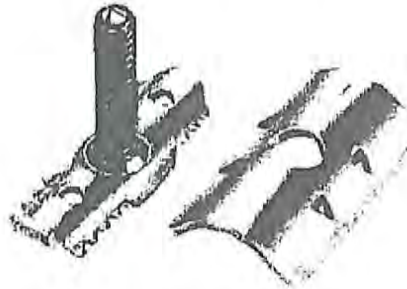

Figure 2 - Mini B Bond Clamp
2.04 The Mini B Bond Clamp, shown in Figure 2, consists of an outer plate from a B1 bond clamp and a reduced size inner plate. The Canadian Mini Bond Clamp is similar to the Mini B Bond Clamp using the same inner plate but a